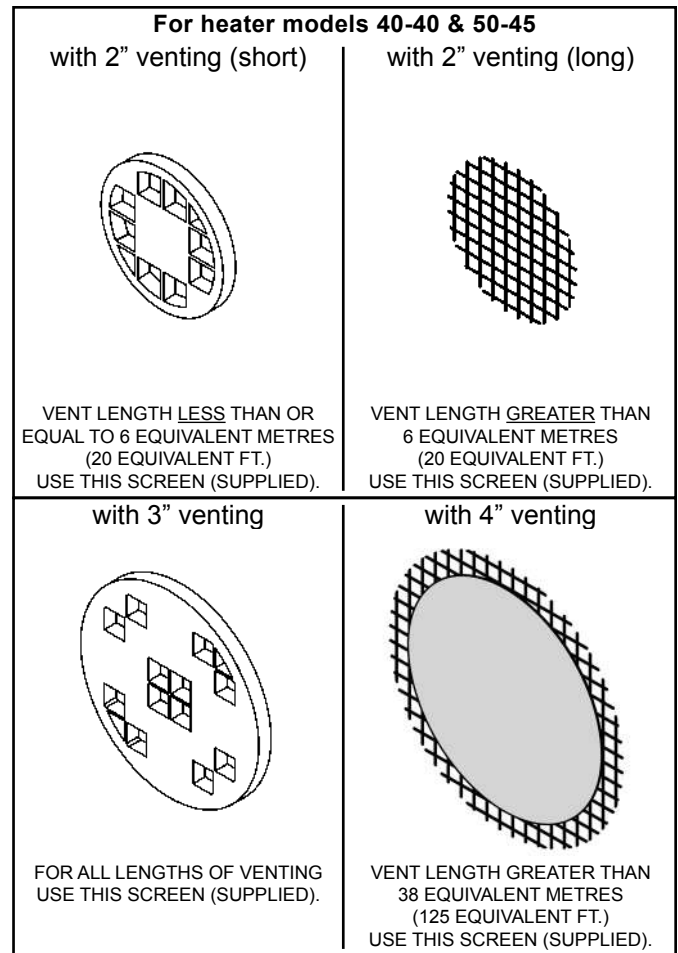
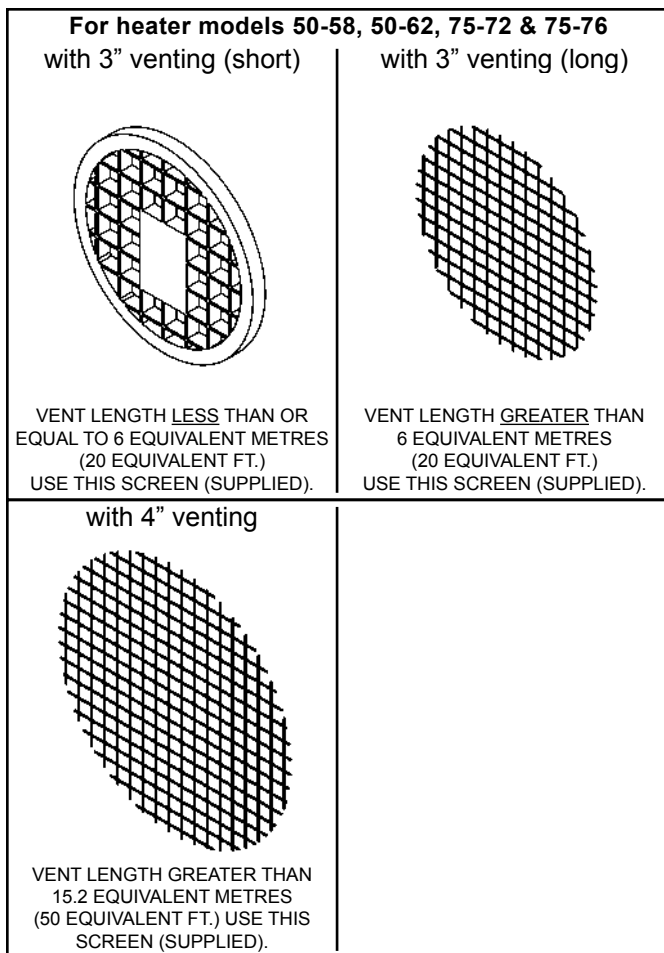

Figure 35.
Figure 36.
* see Figure 35 and Figure 36
Use the appropriate vent termination screen as shown in Figure 35 & Figure 36. Install the vent termination screen in both the air intake pipe and the exhaust pipe.
This water heater includes one (1) pair of more restrictive vent screens and one (1) pair of less restrictive vent screens (see Figure 35 & Figure 36). For safety and optimum efficiency performance, ensure the correct vent screen is installed for the vent length in your installation. A vent screen is required to keep foreign objects, rodents and small birds from entering the venting system. These screens have been sized to ensure maximum energy efficiency of the vent system based on the “equivalent length” of the vent piping. **CHOOSE ONLY the ONE SCREEN THAT MATCHES YOUR VENTING CONFIGURATION** (see Figure 35 & Figure 36). The vent screen **MUST** be installed for proper operation of the water heater. How to determine the “equivalent length” is shown in Table 4.
- Supplied with this heater are several vent screens (see Figure 35 & Figure 36).